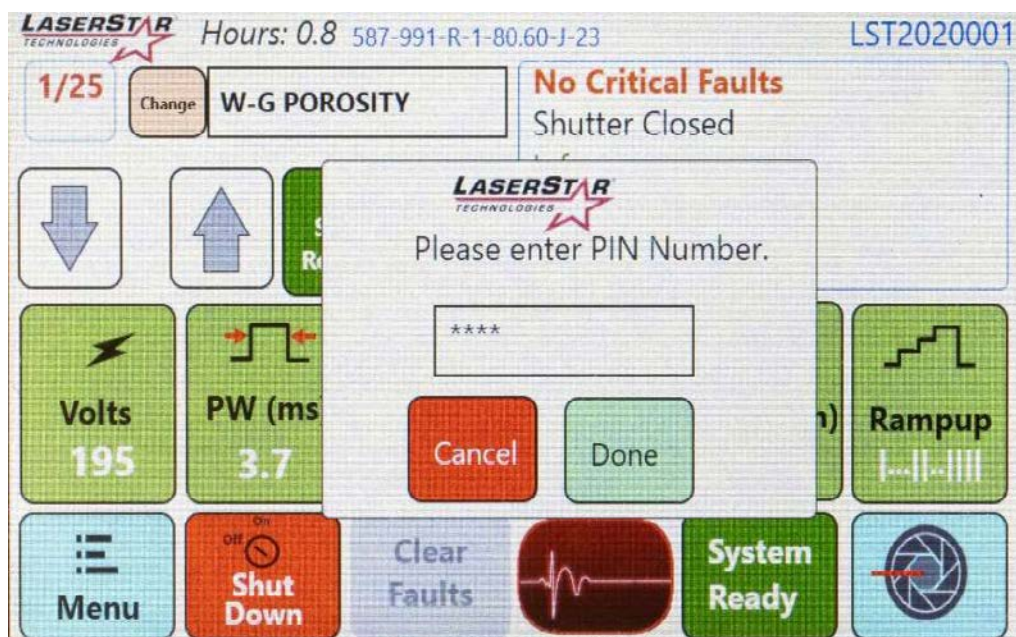

Figure 2
3. Touch the number box (****) **(Figure 2)**
6. Now press (Done) **(Figure 2)**